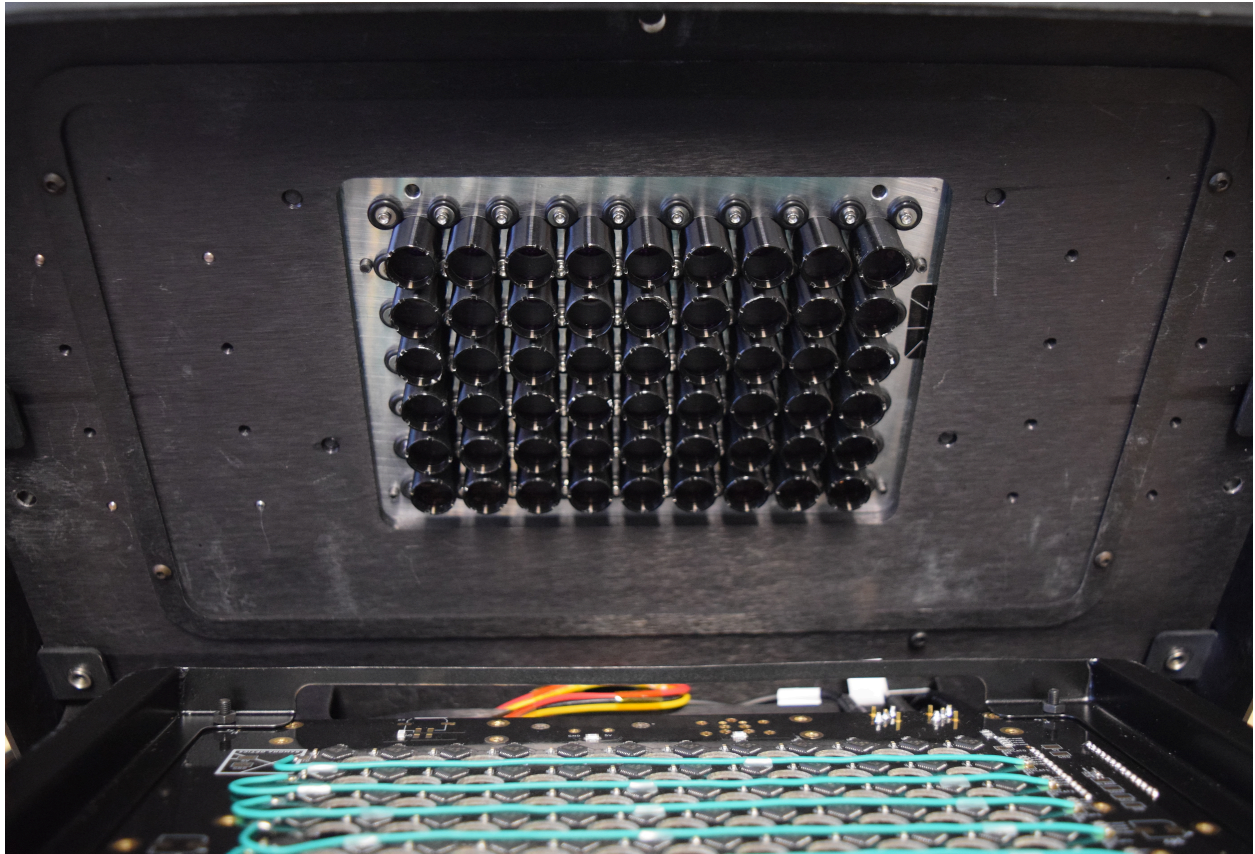

Figure 86: Upper surface of the MCAM showing the system optics and reflection board inset.
- 7) Mount the reflection illumination board to the MCAM by lining up the back edge of the board into the inset and gently pressing the board into the inset. The board will be held in place by magnets and should sit flush with the inset guide (Figure 86).